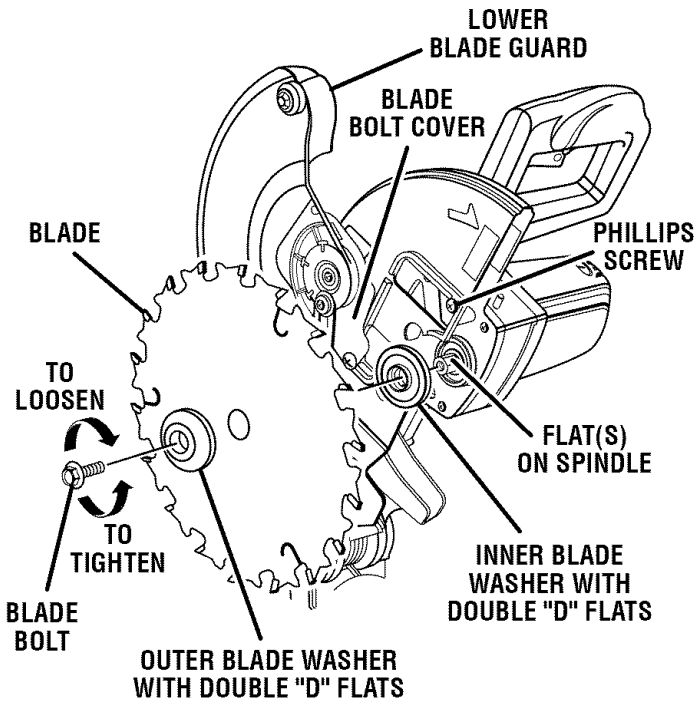

Fig. 19
- Fit blade inside lower blade guard and onto spindle. The blade teeth point downward at the front of saw as shown in figure 19.